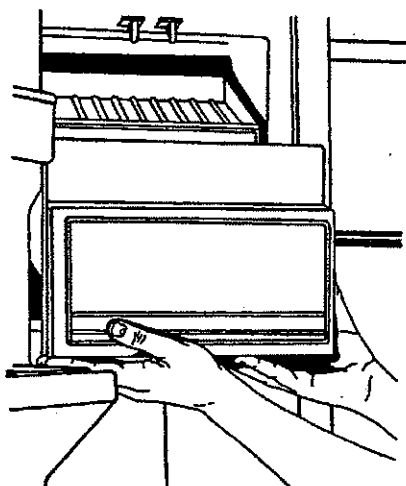

Figure 84
- c. Lift up slightly on ice bin and pull out. Thaw/discard ice and return bin to freezer. See Figure 84.